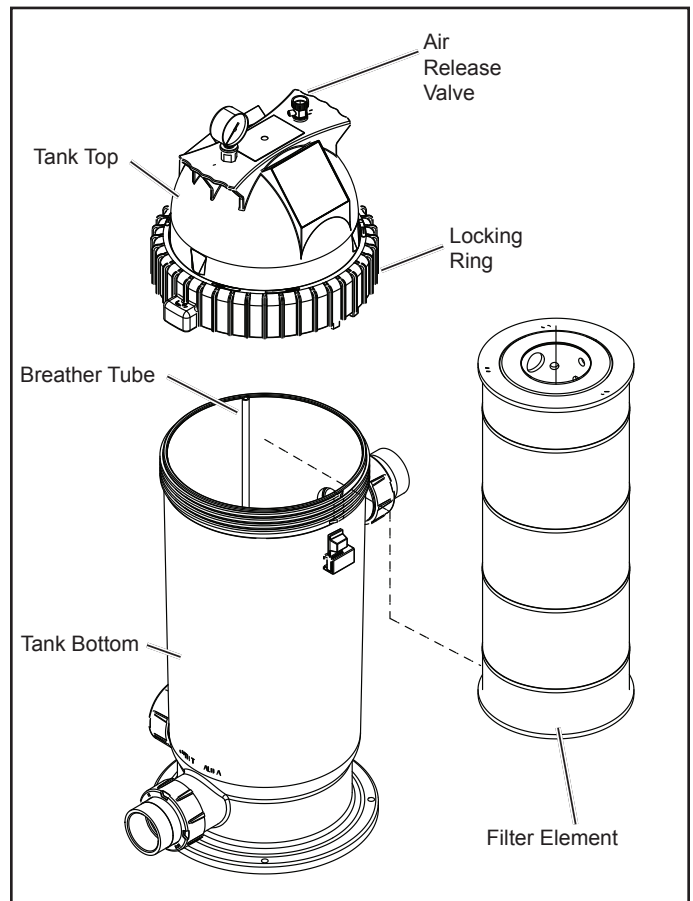

Figure 8. Filter Element Removal
2. Open air release valve on top of the filter tank to release all pressure from inside the tank and system, see Fig. 8. Close any filter isolation valves on the system to prevent flooding.